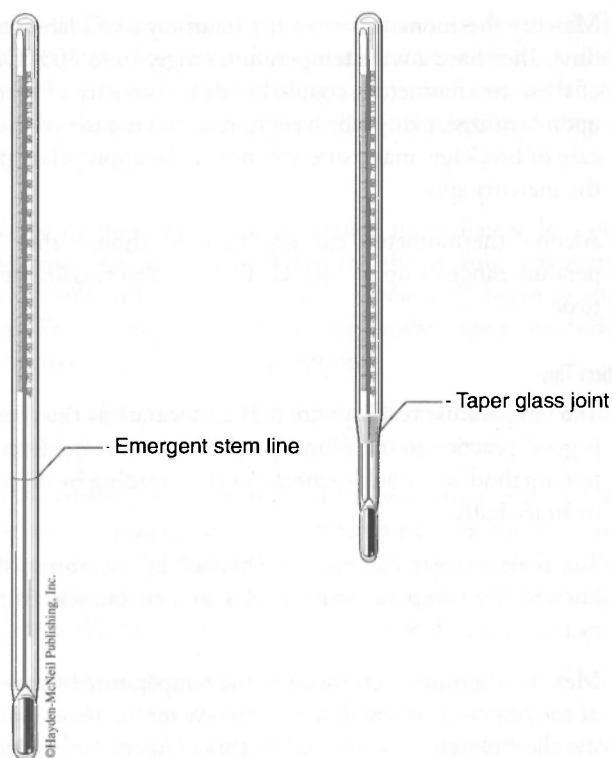

Figure 1-4. Different styles of thermometers.
- Thermometers can also have ground glass joints (taper joints), as shown in Figure 1-4, for use with ground glass equipment for easy assembly.